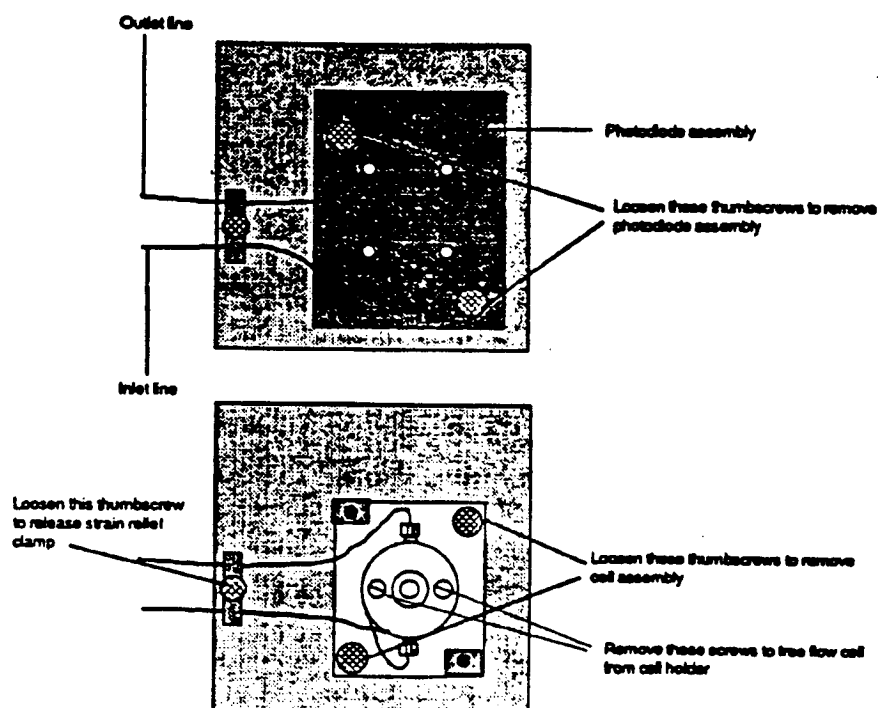

Fig. 5.2.
- Remove the cell cover by unscrewing the thumbscrew and pulling the cover straight back to expose the photodiode mount (See Figure 5.2).